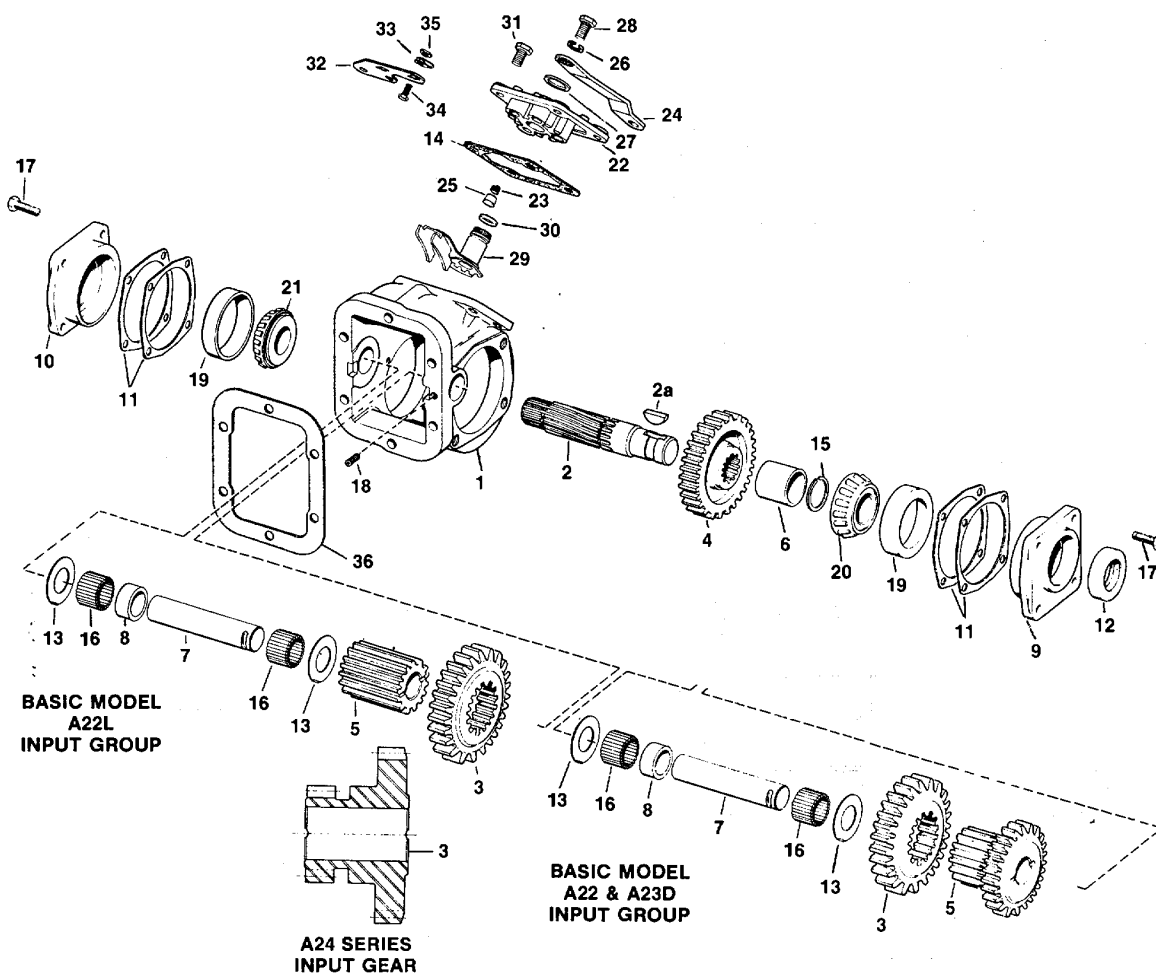
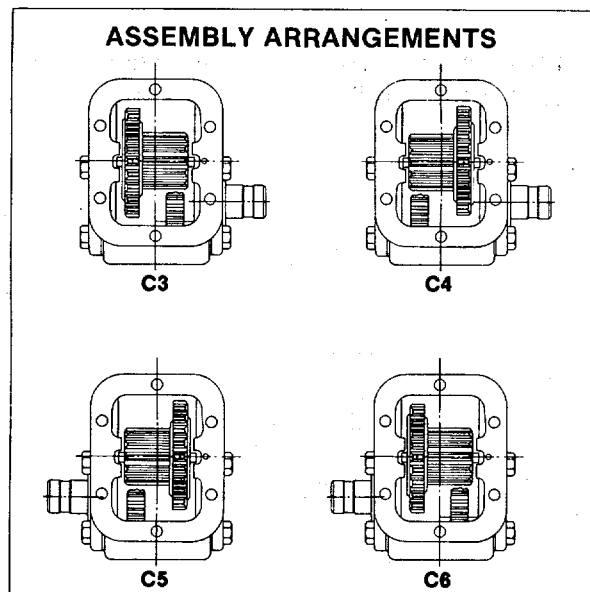

Figure 1
Figure 2
1. Using chisel and hammer, remove key from shaft (Fig. 1 #2a). Photo 1
2. Remove four capscrews (Fig. 1 #31) from shifter cover (Fig. 1 #22) using 1/2" wrench and remove shifter cover from P.T.O. Discard gaskets. Photos 2 & 3
3. With 1/8" allen wrench, remove allen screw (Fig. 1 #18) from base of housing. Photo 4
4. Using a suitable piece of bar stock or a punch, drive idler pin shaft (Fig. 1 #7) through housing using a soft hammer or press. Photos 5 & 6
5. Remove gears (Fig. 1 #3 & 5), and washers (Fig. 1 #13) from housing. The bearings (Fig. 1 #16) and spacer (Fig. 1 #8) can also be removed from the input idler gear so they can be cleaned, inspected and repacked with new bearing grease. Photo 7
6. Set P.T.O. on its side (output shaft up) and unbolt four capscrews (Fig. 1 #17) and remove open bearing cap (Fig. 1 #9). Discard gaskets. Photos 8 & 9
7. Turn P.T.O. over and proceed as in step #6, removing closed bearing cap (Fig. 1 #10). Photos 10 & 11
8. Using bearing pullers, remove tapered bearing (Fig. 1 #21) from input end of shaft. (For C4 and C6 assemblies shaft can be removed; C3 or C5 follow step #9.) Photos 12 & 13
NOTE: It is not necessary to remove the bearing (Fig. 1 #20) on the output end of the shaft unless it has been damaged or is worn excessively. If it has to be removed, this can be done using the bearing pullers after the shaft has been removed from the housing.
9. Remove snap ring (Fig. 1 #15) on C3 and C5 assemblies only, using a chisel and hammer. Photo 14
10. After removing the shaft (Fig. 1 #2), the gear (Fig. 1 #4) and spacer (Fig. 1 #6) will simply fall out of the housing. Photo 15
- A. Select proper assembly arrangement (Fig. 2) and place output gear (Fig. 1 #4) in housing Photo 1
NOTE: Snap ring (Fig. 1 #15) is always located next to the spacer (Fig. 1 #6) in the 22 & 26 series.
- C. Start small bearing (Fig. 1 #21) on shaft. Then turn unit over and start large bearing (Fig. 1 #20). Press or drive into place with a soft hammer or a hydraulic or arbor press. Photos 5, 6 & 7
A. Turn P.T.O. over (output shaft down). Place gasket(s) on closed bearing cap (Fig. 1 #10) and install on unit using four capscrews (Fig. 1 #17). Photos 8 & 9
B. Turn unit over and install open bearing cap (Fig. 1 #9) using previous procedure. (Step A) Shaft should turn freely with a minimum of end play (less than .006). Photos 11 & 12
- E. Install oil seal (Fig. 1 #12) using slide and driver. Seal should be flush with bearing cap when installed properly. Photos 16 & 17
- A. Fit two gears (Fig. 1 #3 & 5) together. Sliding gear (Fig. 1 #3) should move freely on mating gear (Fig. 1 #5). Photo 18
- B. Load gear (Fig. 1 #5) in the following manner: